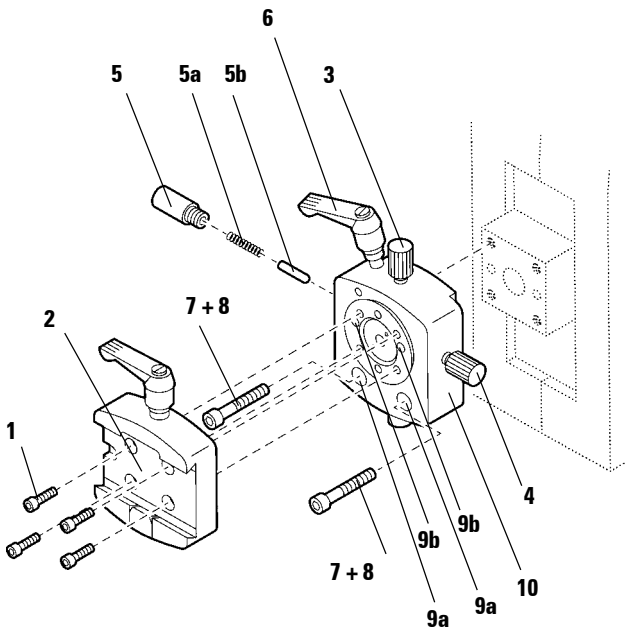

Fig. 62.1
12.8.1 Disassembling the orienting fixture for specimen clamps (Fig. 62.1)